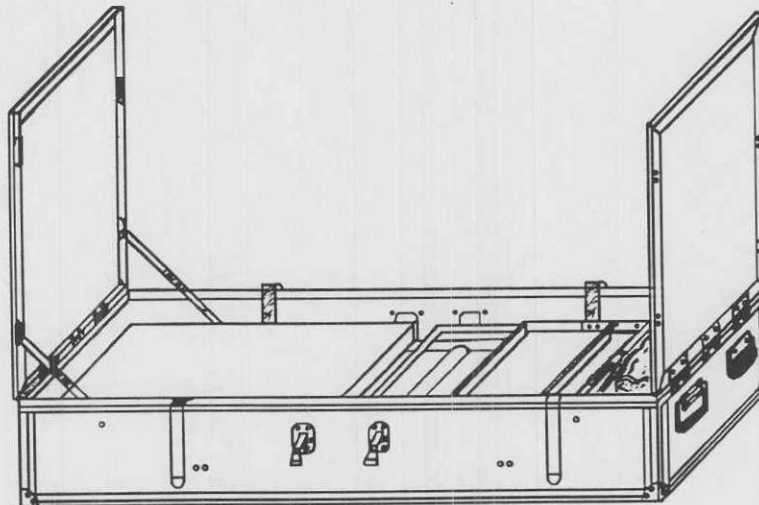

Figure 2-1. Carrying case.
*a. Removal from carrying case (fig 2-1).*
- (1) Open carrying case lids.
- (2) Unbuckle the straps holding the table down in its carrying case.
- (3) Remove component parts and pouches.
- (4) Remove table from carrying case.